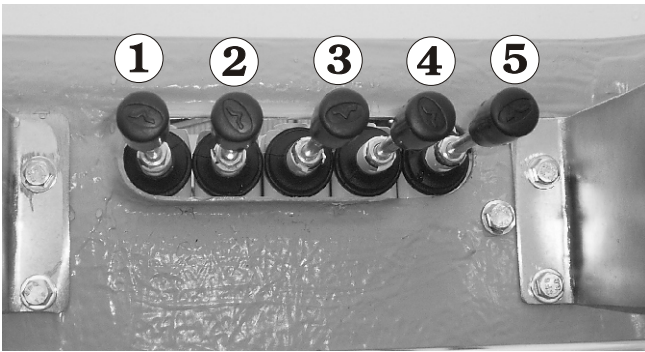

**Figure 8.7 - Upper Control Box Controls - Non-Insulated Fibreglass Basket**
8. **Platform Movement Levers:** Items 1 through 5 (see Figure 8.7) are the platform moving control levers.